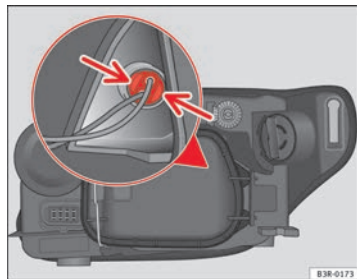

Fig. 197 Side light bulb (outside of vehicle)
- Gently press on the bulb holder tabs ⇒ **fig. 197** and pull the cover upwards (it can also be removed by pulling on the bulb holder wires).